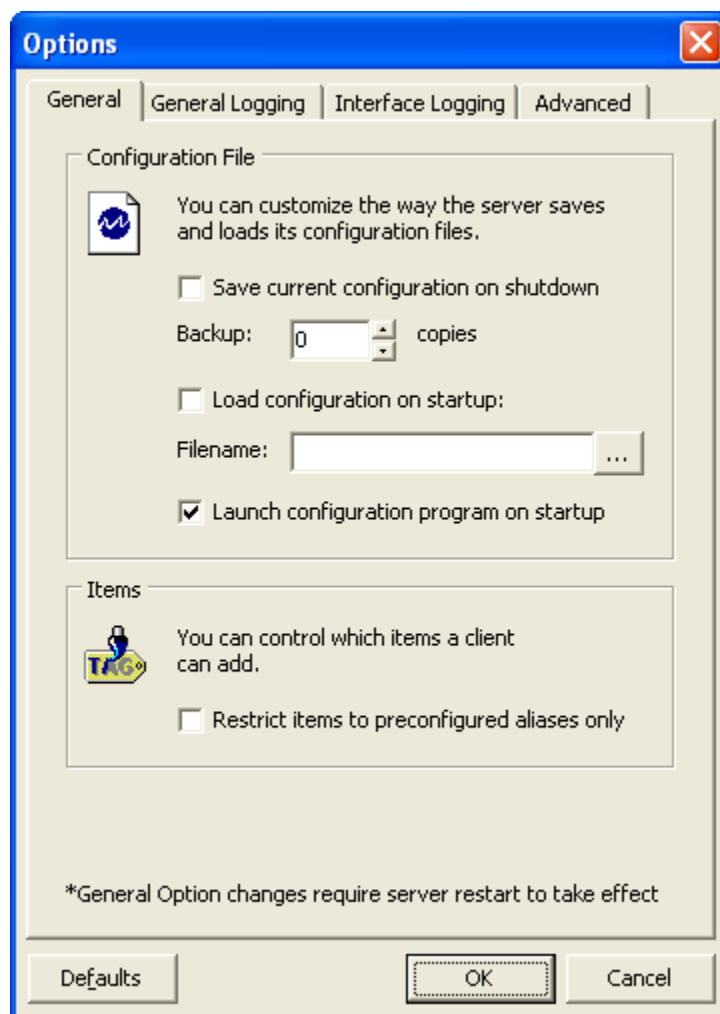

Figure 5 - General Options Tab
3. From the **Options** window, select the **General** tab (Figure 5).